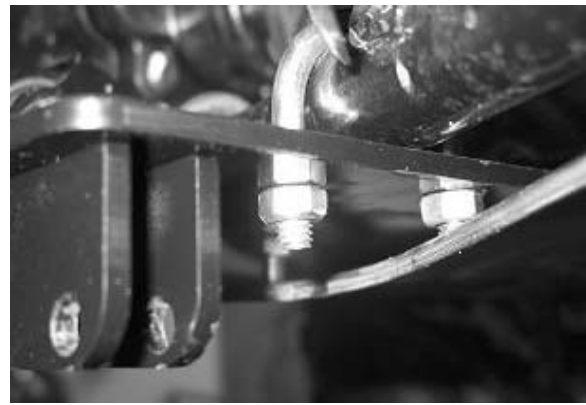

Figure 6
5. Hold the skid plate against the u-bolts, tap with a hammer so that an indent is made on the back of the skid plate. See figure 6.